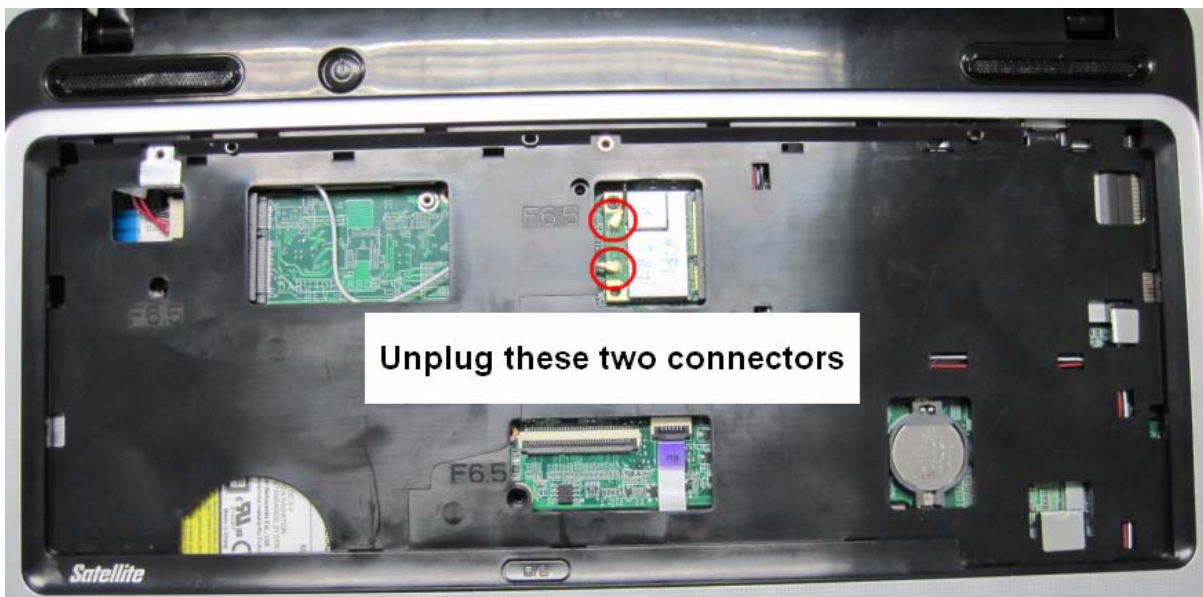

Figure 4-8-1 Unplug WLBT connector
3. Unplug the wireless connector.(Figure 4-8-1)